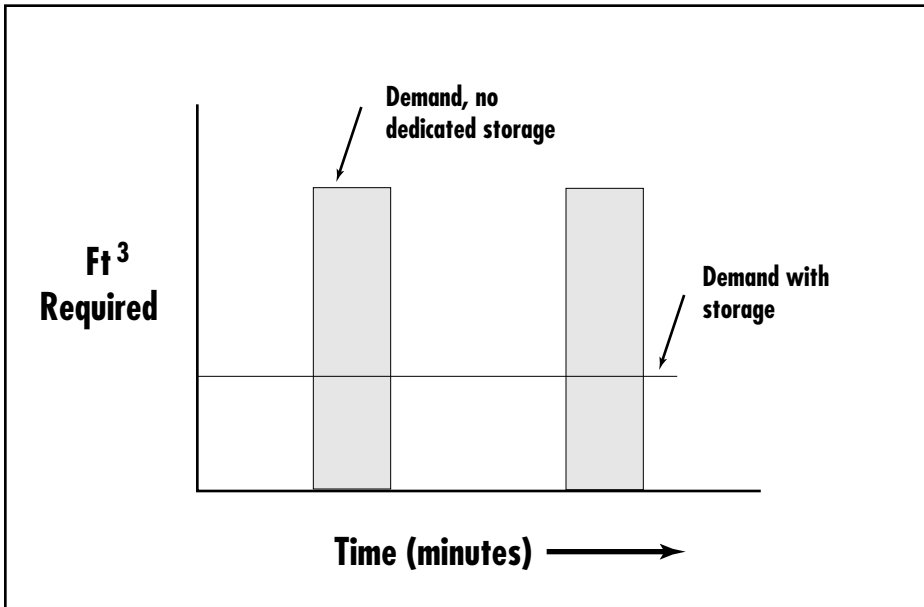

Fig. 1
- Focus on singular events that drive the system. Singular events can range extensively across industries and are often unique to particular plants. For example, bag houses can consume high volumes of air in a very short time. The consumption, if uncontrolled, can look like a step function, as shown in Fig. 1. If the bag house is a significant proportion of the load of the plant, it may drive the system to require an off-line compressor to come on-line specifically to handle the additional load to the system. Once on-line, this last compressor may stay on-line primarily in an unloaded mode, consuming energy. If its demand is stored in a dedicated storage or receiver tank and the replacement air metered in, it is then possible to make this shock load look like a much smaller, continuous demand, shown by the “demand with storage” line. If the buffer is big enough it is possible to keep that last compressor off-line.